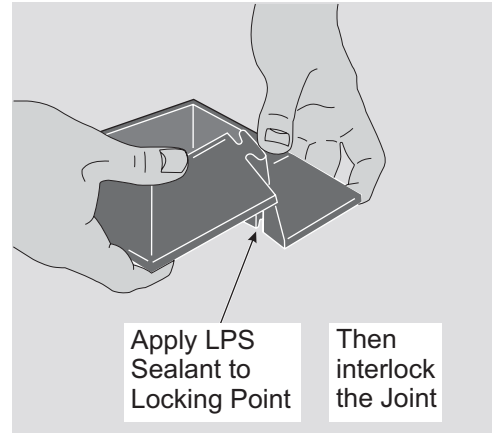

Figure 2-3: Apply LPS Sealant and Locking the Interlock Joint
- D. Apply a liberal bead of LPS sealant to the locking point of the Lockin' Pocket and interlock the joint. (See Figure 2-3)